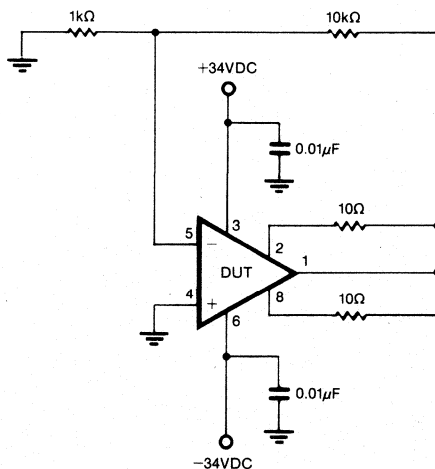

FIGURE 3. Test Circuit—Burn-in and Operating Life Test (Condition B).
- (1) Test condition B or D
- (2) Test circuit is Figure 3 herein for condition B
- (3) $T_A = +125^\circ\text{C}$ minimum
- (4) Test duration is 160 hours minimum
- (3) $T_A = +125^{\circ}\text{C}$ minimum
- (4) Test condition is 1000 hours minimum